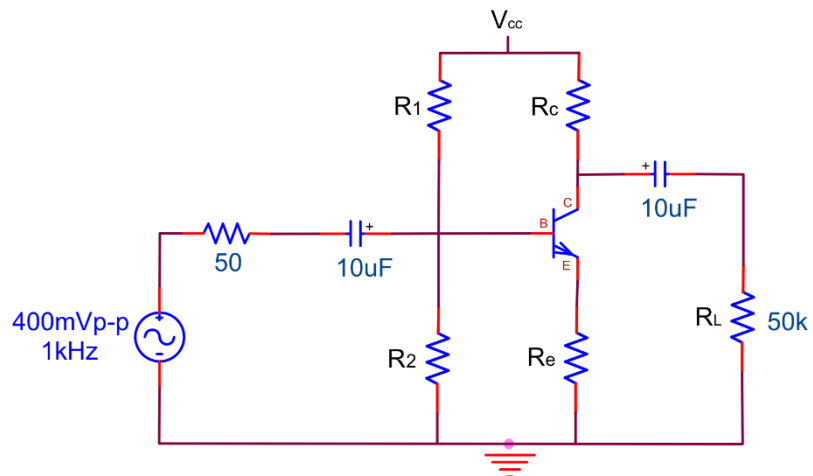

Figure 6.4
2. Construct the circuit in Figure 6.4 .